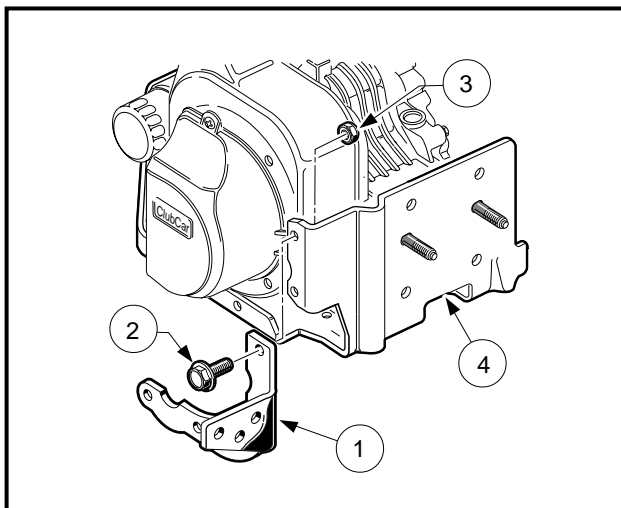

Figure 12-25 Remove Stiffener
5. Cut the wire tie holding the wire harness to the stiffener (1) and remove the bolts (2) and nuts (3) securing the stiffener to the mounting plate (4) (**Figure 12-25, Page 12-26**).
15. Install the stiffener with four hex head bolts and lock nuts. Tighten the hardware to 23 ft-lb (30.5 N·m) **(Figure 12-25, Page 12-26)**.
17. Secure the wire harness to the stiffener with a wire tie. Place the wire tie through the lower hole at the back of the stiffener **(Figure 12-25, Page 12-26)**.